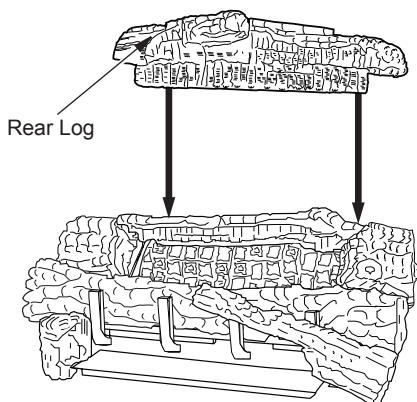

Figure 32 - Installing Rear Log
8. Rest the rear log (18" D-069, 24" & 30" D-043) on the chassis behind the rear burner as shown in Figure 32. The bottom of the rear log will sit into the rear log supports.